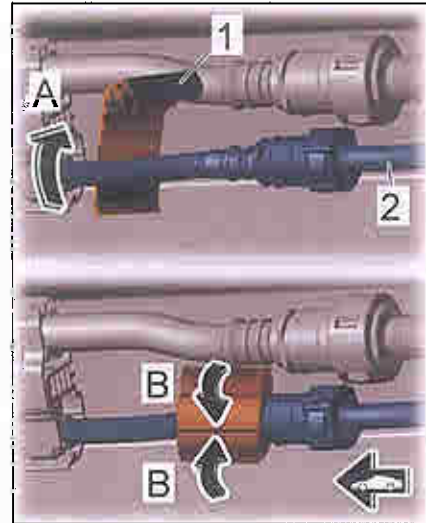

Figure 11
- 3.1 Guide a spacer ring ⇒ *Figure 11 -1-* in between the fuel line ⇒ *Figure 11 -2-* and body ⇒ *Figure 11 -arrow A-* and close it around the fuel line as shown ⇒ *Figure 11 -arrows B-*.